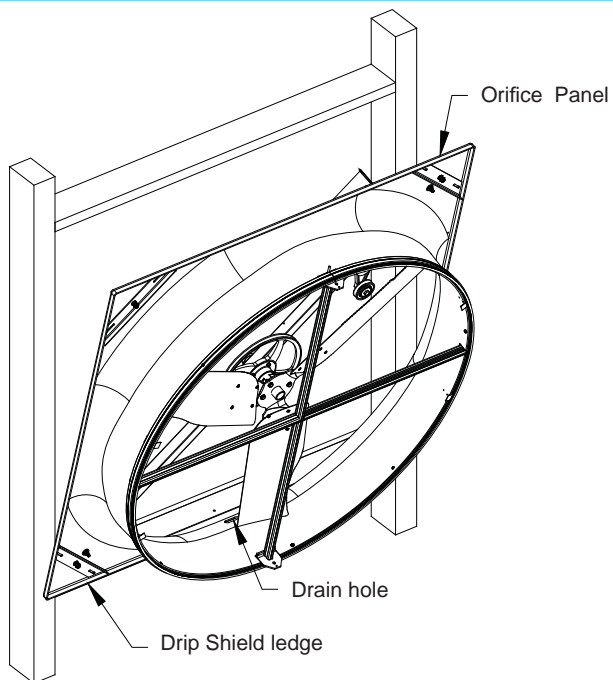

Figure 10A
Locate the Drain hole in the Fiberglass Orifice. This is the bottom of the Orifice. Set the bottom edge of the panel on the Drip Shield ledge and center the panel on the opening. Then secure the Orifice to the wall using (16) proper Screws (Not Provided). See Figure 10A and 10B.